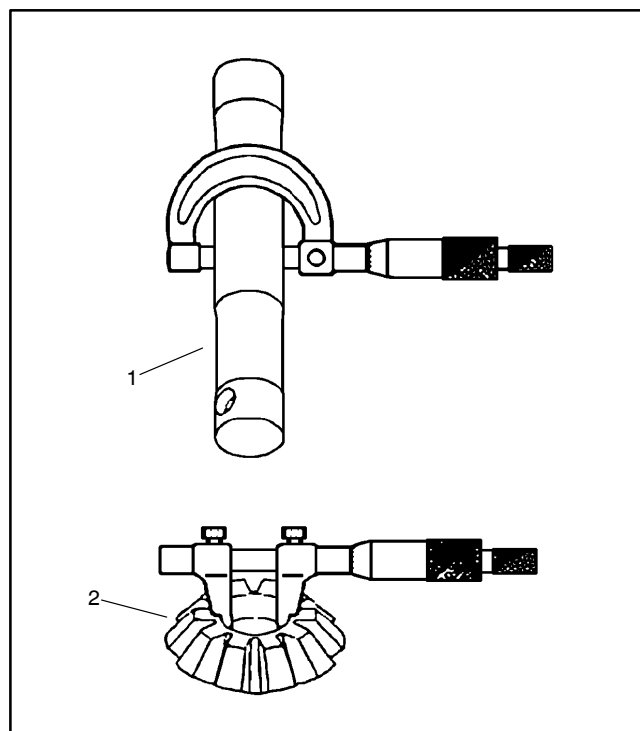

Figure 26
2. Measure the differential pinion shaft O.D. and the pinion gear I.D. to determine the pinion shaft to pinion gear clearance (Fig. 26). Replace components as necessary.